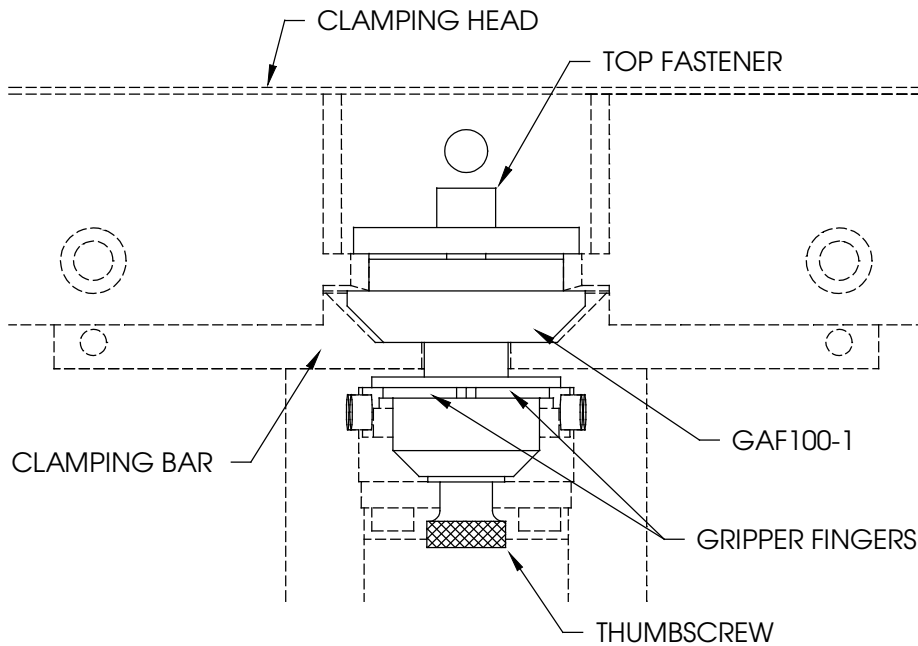

Figure 14. Clamping Head and GAF100-1
3. Place the GAF100-1 into the Clamping Head, as shown in Figure 14, and tighten the Top Fastener (5/16 hex key).
7. Manually raise the Gripper Slide and close the Gripper Fingers around the GAF100-1. While holding the Gripper Fingers tightly together around the GAF100-1, tighten the Thumbscrew to secure them in place, see Figure 14.